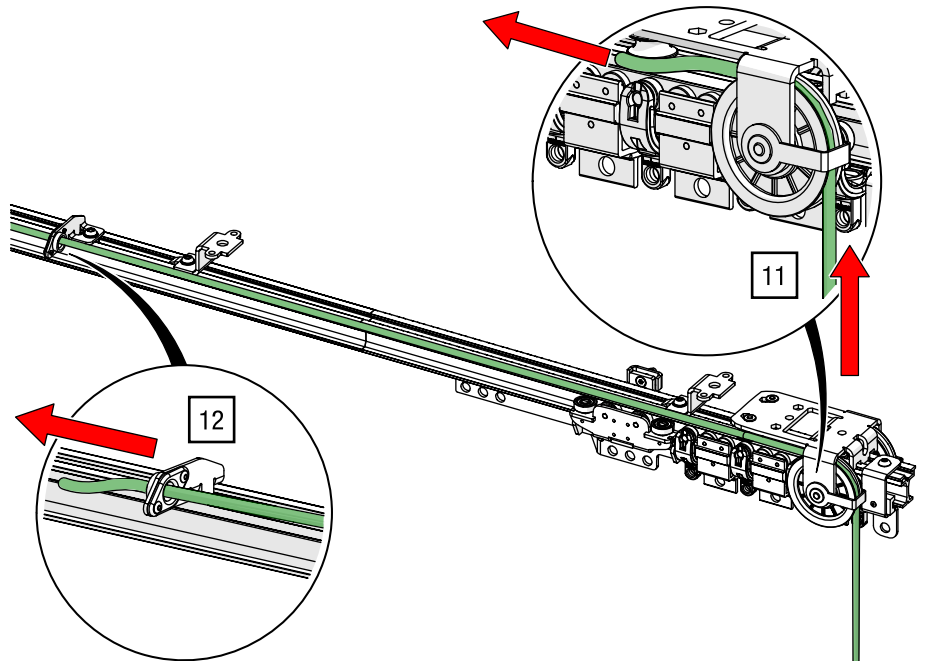

Fig. 80: Side cord operation – Guide the cord through the head pulley and cord guide
11. Pass the cord upwards through the head pulley (see Fig. 80).
12. Guide the cord past the first master runner through the cord operation (see Fig. 80).
16. Guide the second cord end up through the head pulley and through the cord operation into the second master runner (see step 11 – Fig. 80 [► p. 69]).